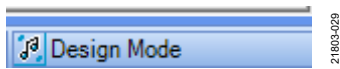
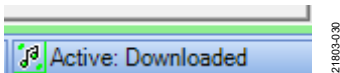

Figure 29. **Design Mode** and Blue Status Bar
Figure 30. **Active: Downloaded** Text and Green Status Bar
- The status bar in the lower right corner of the **SigmaStudio** window (see Figure 29) turns from blue to green and the text changes from **Design Mode** to **Active: Downloaded** (see Figure 29 and Figure 30). Until this point, **SigmaStudio** is in design mode, as noted by the blue status bar and the **Design Mode** text in the lower right corner of the **SigmaStudio** window (see Figure 29).